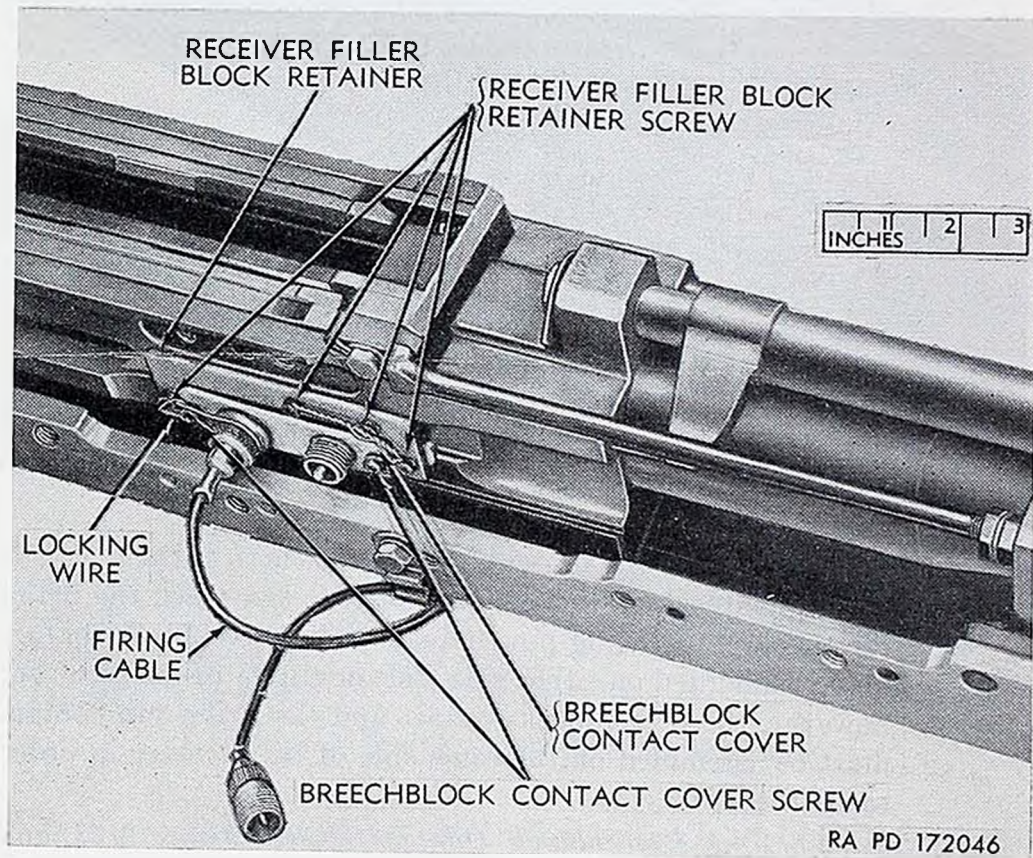

Figure 96. Removing breechblock contact parts.
- (4) The function of the breechblock contact is to furnish a path by means of which the ignition current can reach the firing pin through the firing pin contact. The breechblock contact may be mounted on either side (left or right) of the receiver; however, the breechblock contact and the firing pin contact must be assembled on the same side of the receiver in order to fire the gun.
b. Disassembly of Breechblock Contact Parts (Guns M24 and M24E2) (fig. 96).
- (1) Remove locking wire that secures receiver filler block retainer screw and the breechblock contact cover screw to the connector of the firing cable (fig. 96).
- (3) Remove the two breechblock contact cover screws and the four receiver filler block retainer screws (fig. 96).
- (4) Remove receiver filler block retainer, breechblock contact cover, and breechblock contact from outside the receiver and
- (5) Connect firing cable to rear receptacle and secure the connector of the firing cable with locking wire to the receiver filler block retainer screw and breechblock contact cover screw (fig. 96). Secure the four remaining screws with locking wire (fig. 96).